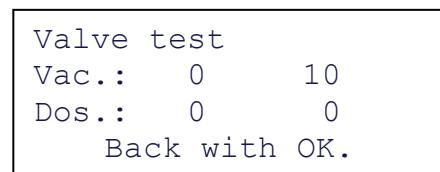

Fig. 12: valves of the
- After approx. 5 seconds, the dose and vacuum values appear on the display (see Fig. 12).